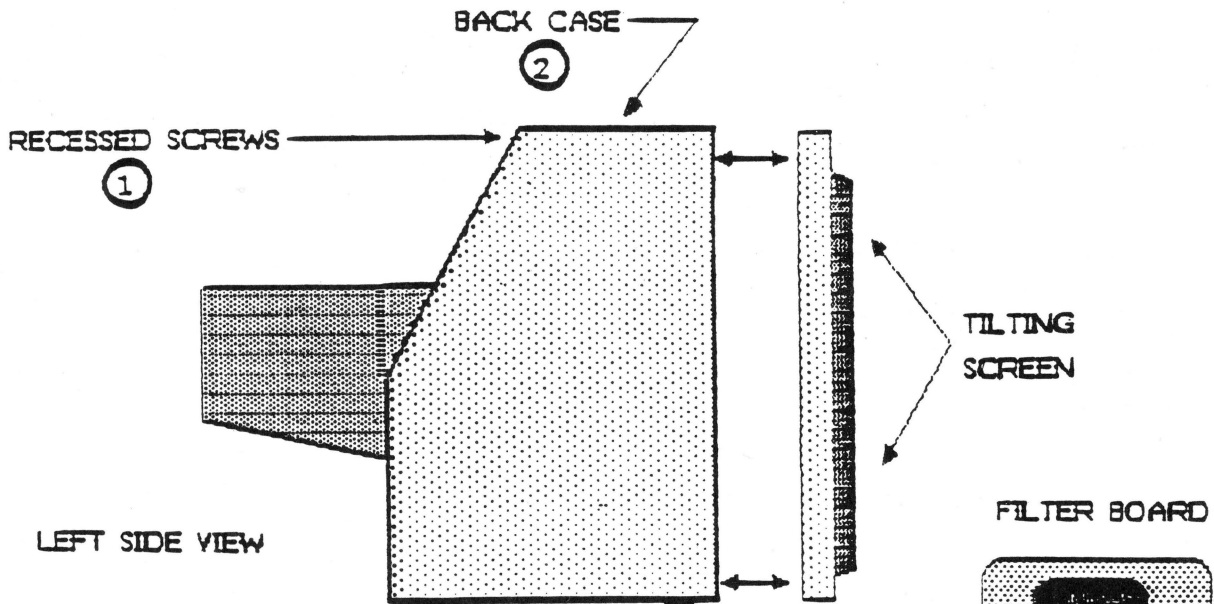

Figure 1
2. **ALWAYS DISCHARGE THE CRT BEFORE REMOVING OR REPLACING ANY INTERNAL PARTS.** The CRT, or Cathode-Ray Tube, (Figure 1, #1) is an extremely dangerous piece of equipment. It runs at 12,000 volts DC and contains a high vacuum. Before touching any internal components you must discharge the CRT. (See **Discharging the CRT.**)
6. **NEVER TOUCH THE ANODE.** Normally the anode has a connector (Figure 1, #2) plugged into it, but when a CRT is replaced, this connector is removed, exposing the anode. The anode can maintain a charge of several thousand volts (even after the power is off).